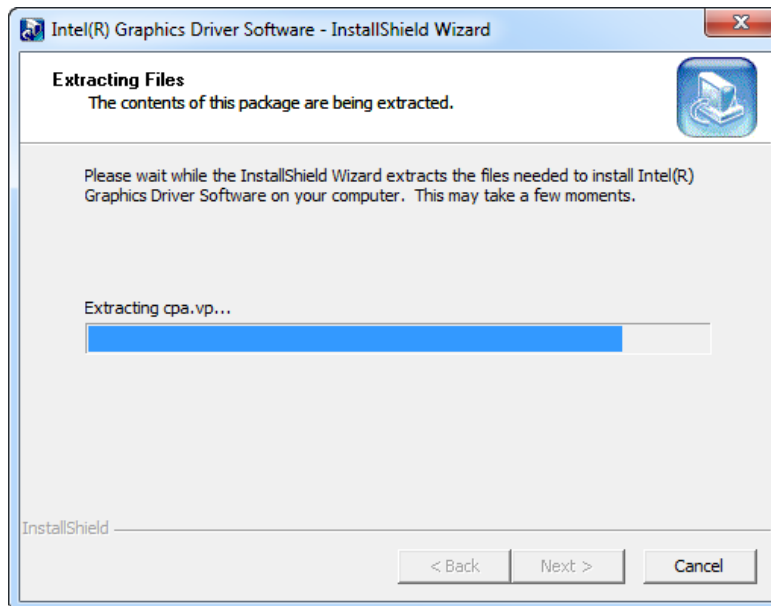

Figure 8-9: Graphics Driver Setup Files Extracted
Step 6: The installation files are extracted. See **Figure 8-9**.